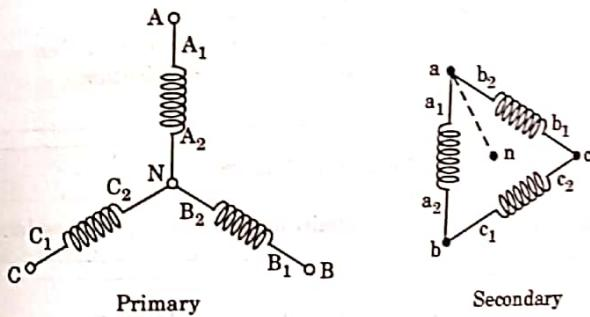

Fig. 5.5.1.  $Y - \Delta$  connections of transformer (Phase shift of 30° lead).
It is to be noted that in Fig. 5.5.1 each winding is drawn along the line of the phasor of its induced voltage.
1. The  $Y - \Delta$  connection of three-phase transformers is shown in Fig. 5.5.1.